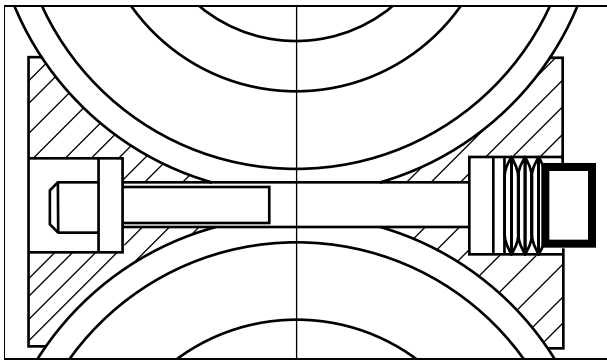
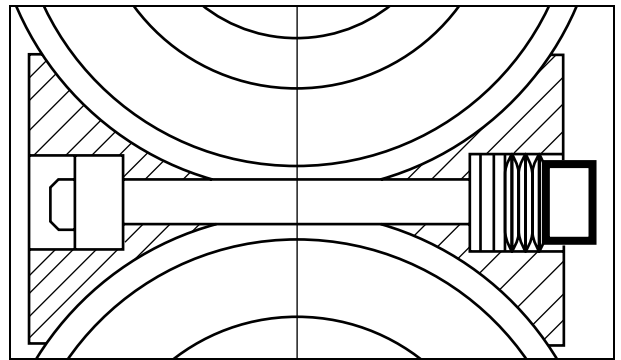

Fig. 29
Fig. 30
- Install the new friction linings according to (Fig. 29 or Fig. 30). There are two different vertical friction linings. Both are equally suitable for the unit.